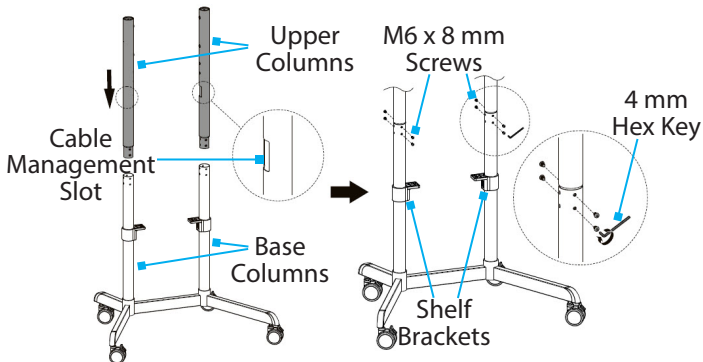

Figure 4
1. Slide one **Shelf Bracket** onto each **Base Column**. Slide the **Shelf Brackets** past the **Screw Holes**, located in the **Base Columns**. (Figure 4)